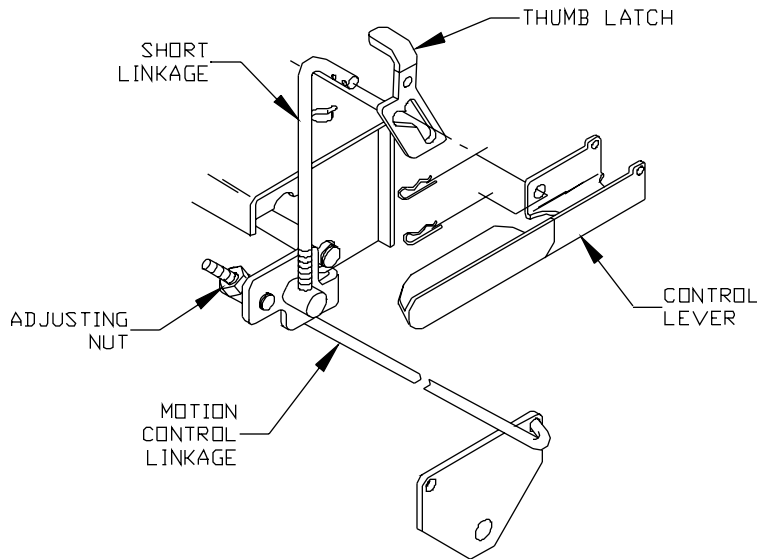

Figure 3
5. Turn the adjusting nut the proper direction until the wheel stops rotating. This is your neutral position, repeat on other side. (see fig. 3)
6. After the neutral position is adjusted. You will need to readjust the short linkage. (see fig. 3)
7. Remove the two hairpins, swing the linkage out of the control lever and the thumb latch. (see fig.3)
8. Turn the short linkage the proper direction in the swivel, so that when the thumb latch is engaged the wheel doesn't turn (or it is in neutral). Reinstall the hairpins and repeat on other side. (see fig. 3)